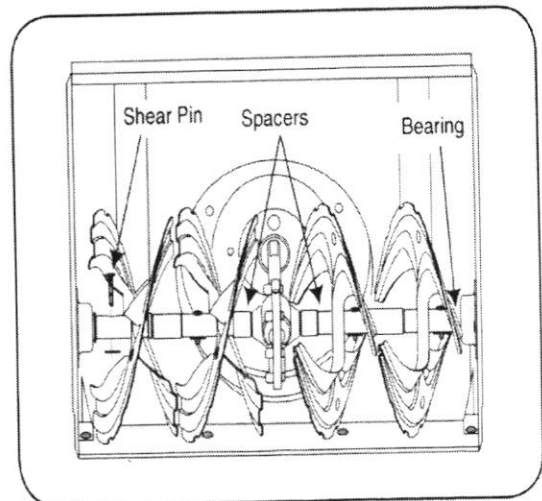

Figure11
4. If necessary fill with oil up to the FULL mark .See fig.11.
At least once a season, remove the shear pins on auger shaft. Spray lubricant inside shaft, around the spacers. Also lubricate the flange bearings found at either end of the shaft. See Figure 11